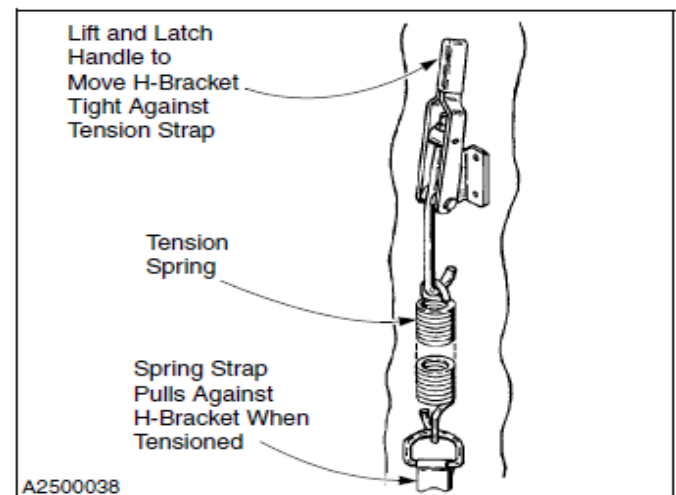

Figure 60
11. Add tension to the strap by moving the handle of the spring tension assembly to its full up position. (See Figure 60)